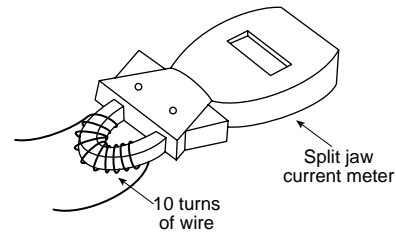

Figure 5. Current meter
1. Loosely wrap **exactly** 10 coils of thermostat wire around the jaws of a split-jaw induction-type current meter (see fig. 5).